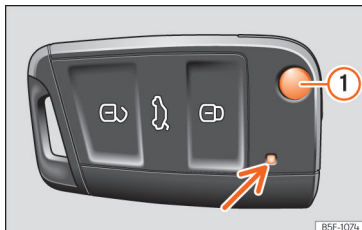
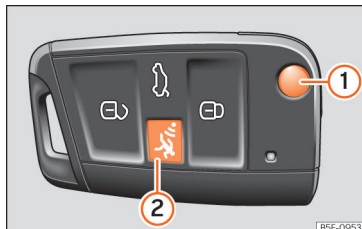

Fig. 117 Vehicle key
Fig. 118 Vehicle key with alarm button.
When a button on the vehicle key is pressed, the control lamp flashes »» Fig. 117 (arrow) once briefly, but if the button is held down for
Press button ① »» Fig. 117 or »» Fig. 118 to unlock and unfold the key shaft.
- If the buttons of the vehicle key are pressed »» Fig. 117 or »» Fig. 118 or one of the central locking buttons »» page 120 is pressed repeatedly in short succession, the central locking briefly disconnects as pro-